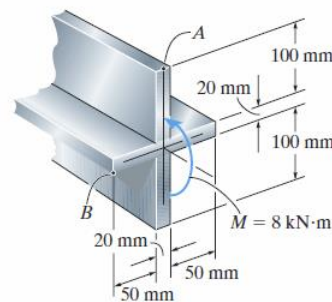

Fig. 7
7. The aluminum strut has a cross-sectional area in the form of a cross. If it is subjected to the moment  $M = 8 \text{ kNm}$ , determine the maximum bending stress in the beam, and sketch a three-dimensional view of the stress distribution acting over the entire cross-sectional area. Fig. 7.